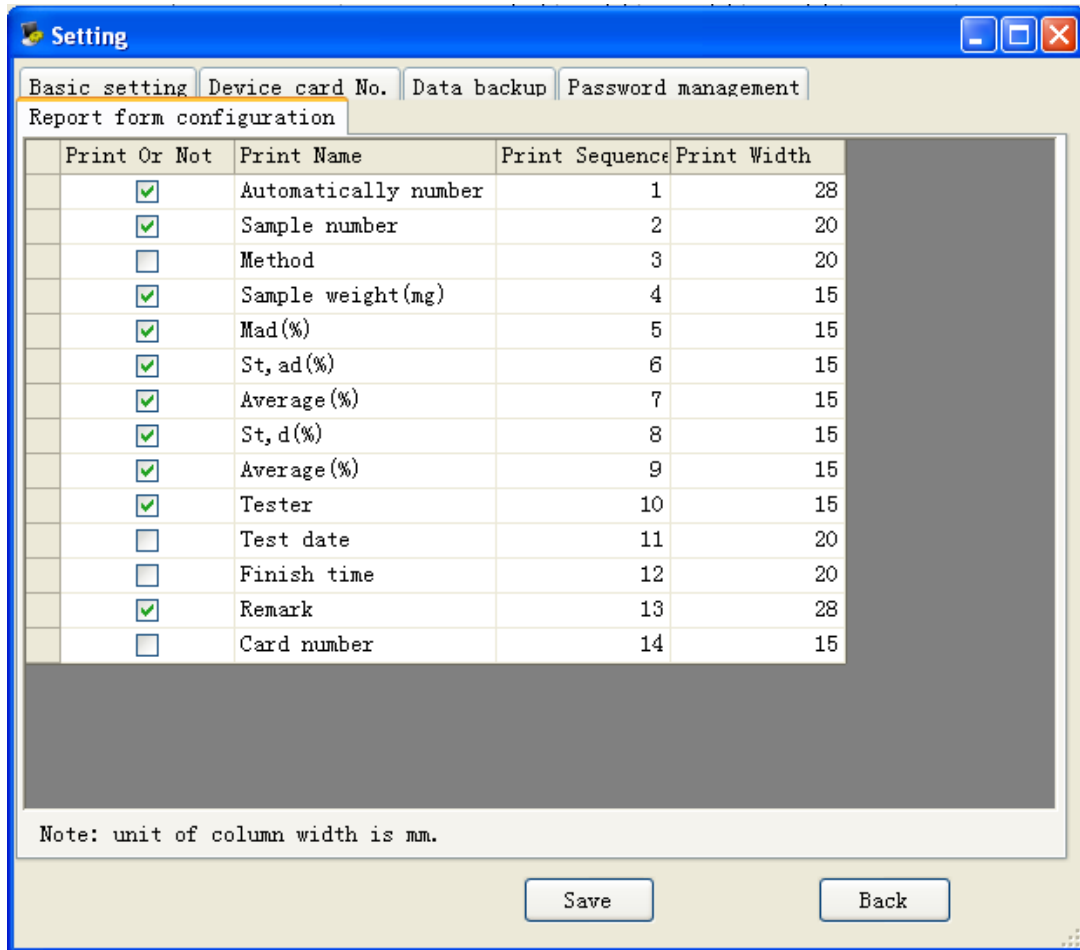

Fig. 5-1-6
**1-5.Report form configuration:** Click “Report Form Configuration” on the Setup window, popup the window as Fig. 5-1-6.